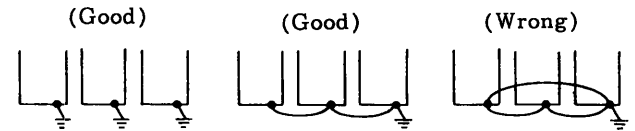

Fig. 7 Grounding of Three Power Units
- Where two or more power units are installed, direct grounding from each ground terminal bolt is recommended, and series connection of all the ground bolts with grounding of one of the ground bolts is acceptable. However, do not make loop circuits as shown in Fig. 7.